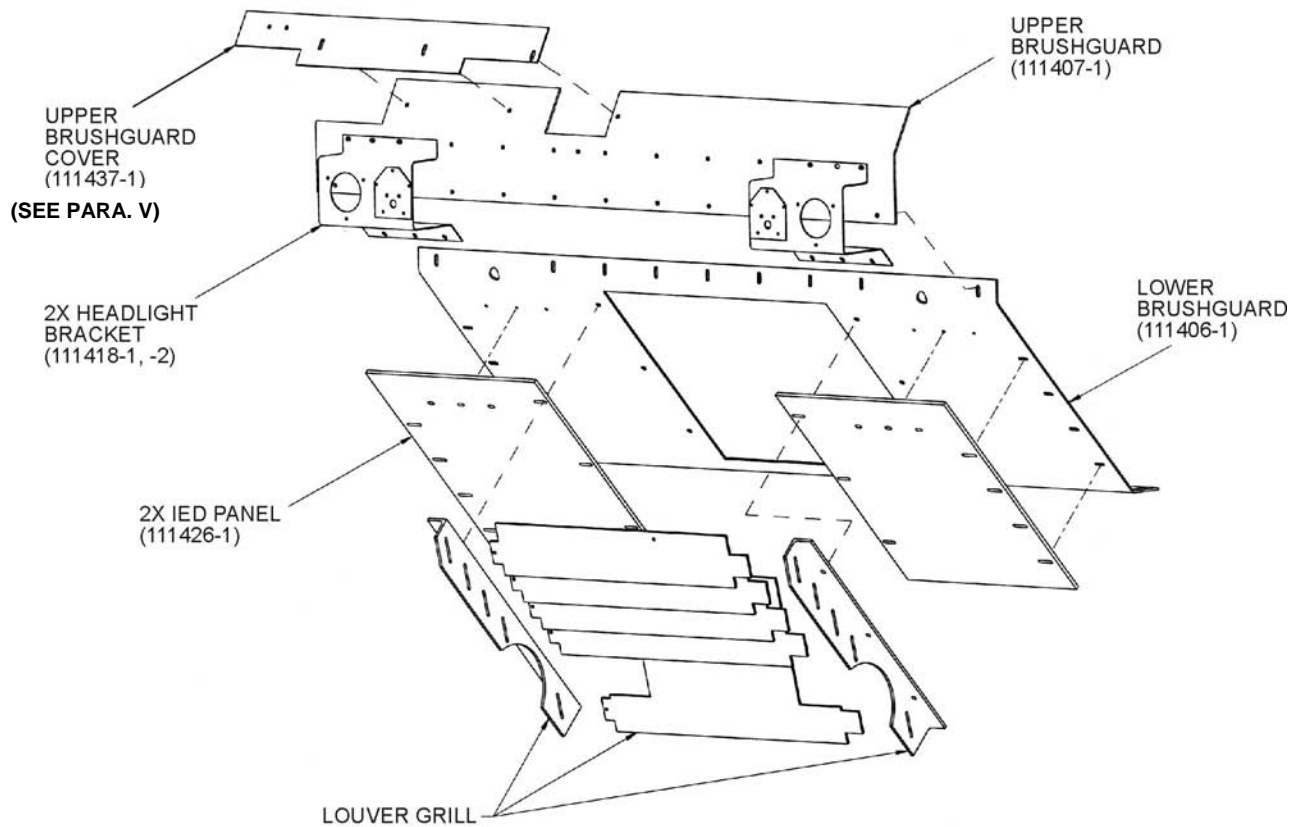

Figure 27. Front HEMTT Armor Kit locations.
- e. Using a lift sling and material handling equipment (hoist, forklift, etc.), position the Lower Brush Guard (P/N 111406-) over the grille area of the front of the cab, and position the two armor panels (P/N 111426-1) on the Lower Brush Guard, and then attach the items to the cab using eight bolts (3/8 - 16 x 1.500 LG) and eight washers (3/8 ID); four bolts and washers are installed on each side of the Lower Brush Guard. Hand-tighten the eight bolts. Remove the material handling equipment and lift sling from the Lower Brush Guard (See Figure 27).